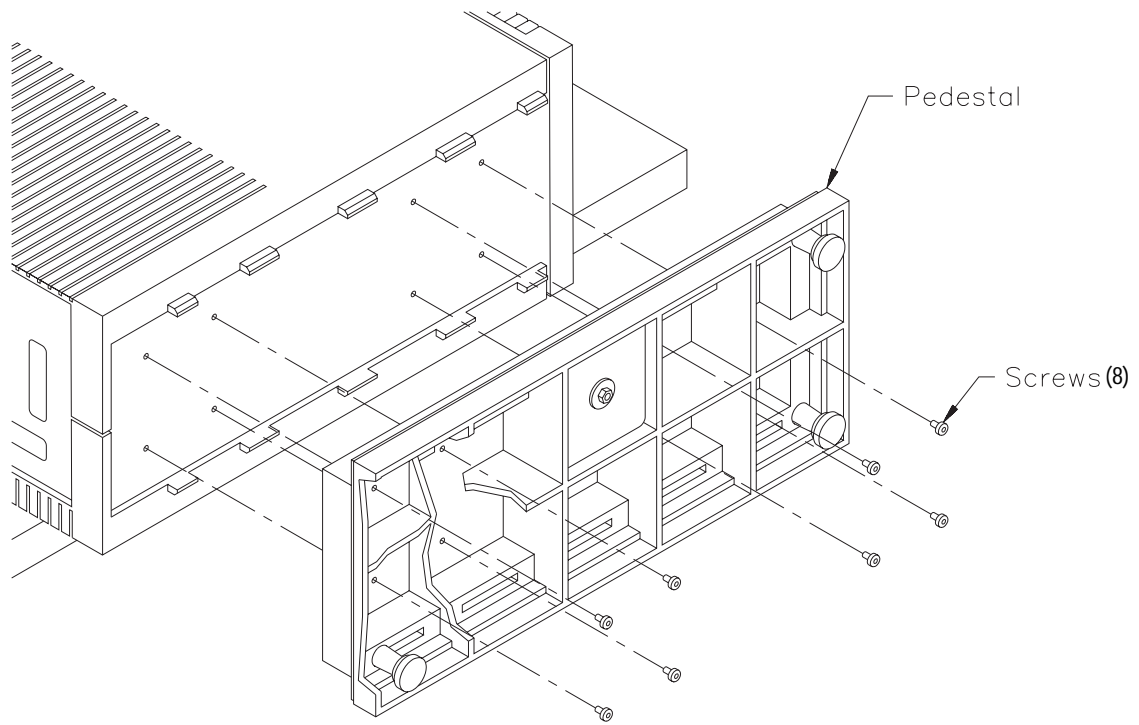

Figure 8 Removing the pedestal from the standalone model
1. Position the library on its side with the bottom of the library (the pedestal) protruding from your work surface, as shown in Figure 8.
2. Using a T-20 TORX bit (earlier models may require a Phillips bit), remove the eight screws from underneath the library pedestal (see Figure 8). Pull the pedestal off the library.